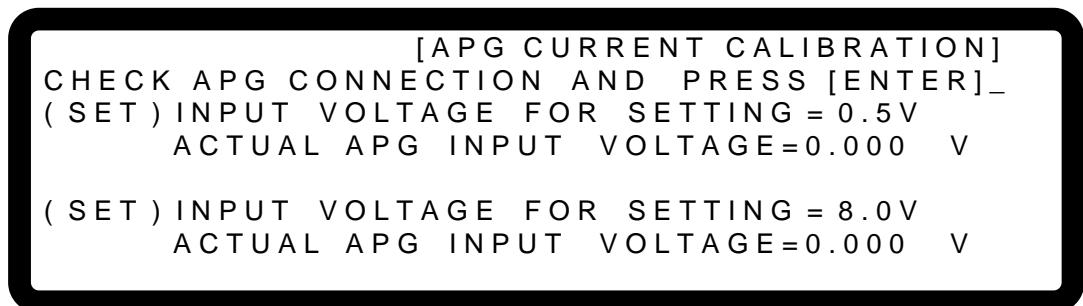

Figure 3-131
2. Press “**ENTER**” to display the current calibration options as shown in Figure 3-131.